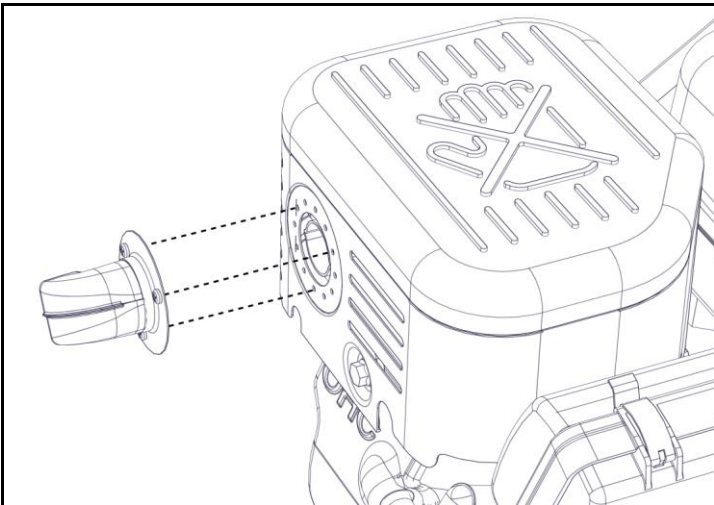

Figure 3 – Exhaust removal
- Remove and discard the three screws and exhaust elbow from the engine (Figure 3).